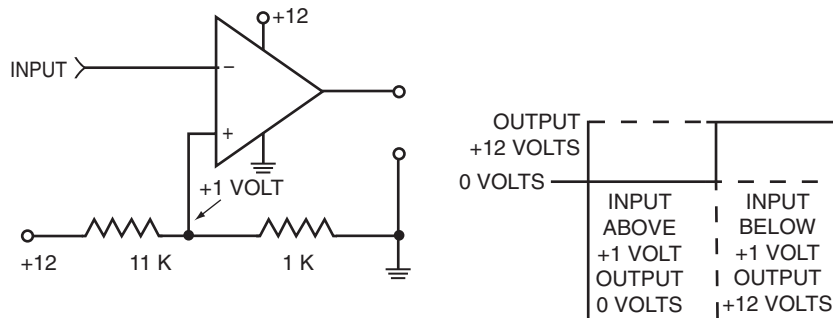

FIGURE 17-33 Comparator service.
An op amp may be used to compare two signals to determine which is the larger. In Figure 17-33, there is a fixed voltage of plus one volt connected to the noninverting input. Whenever the voltage applied to the inverting input is above plus one (1), the output will be zero volts. If the inverting input is below plus one (1) volt, the output will be positive.